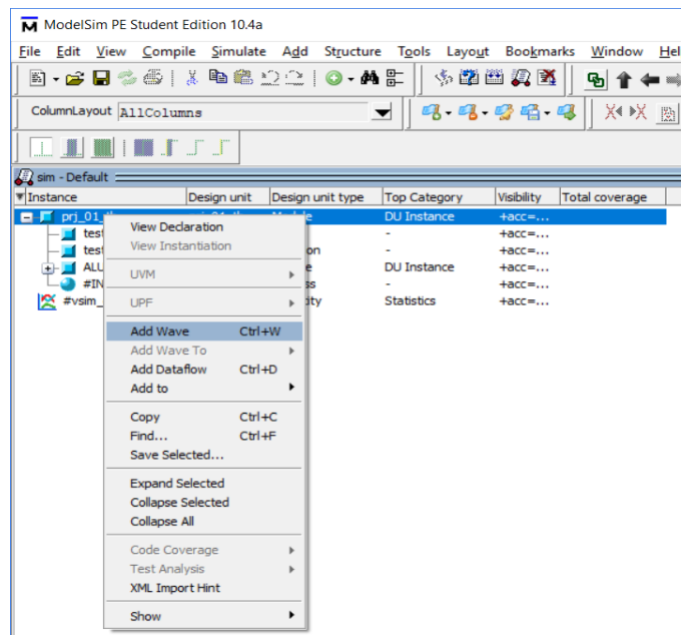
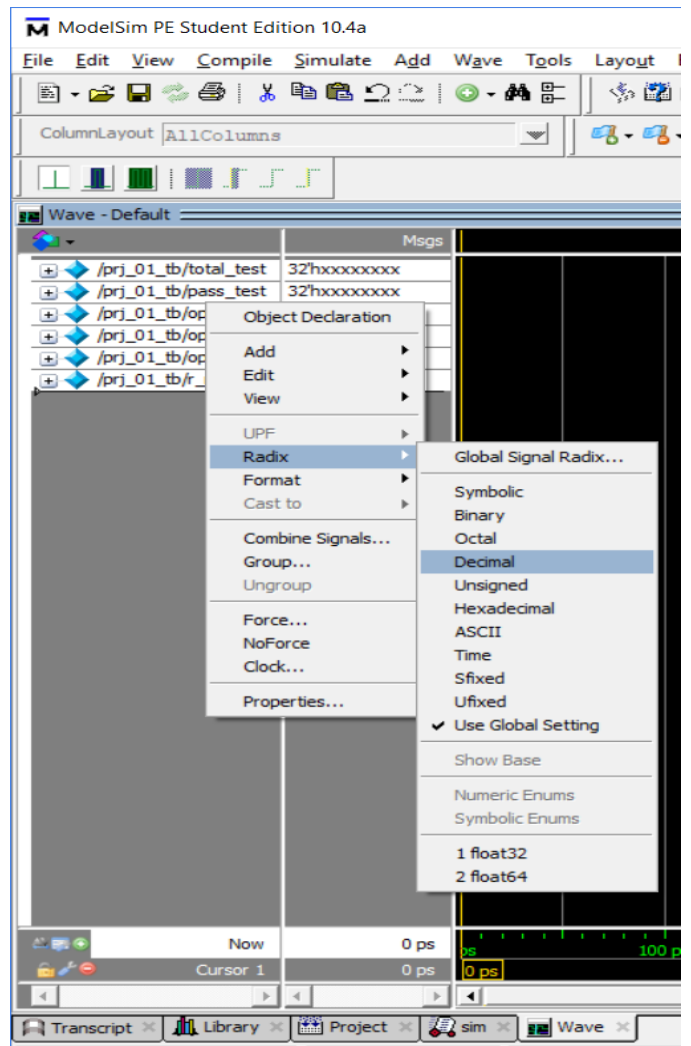

Figure 2.8 Add wave
Figure 2.9 Change format
7) Then right click on the prj_01_tb (Figure 2.8), we can see the add wave. Click on it. It will produce a wave tab. Then select all files, and right click on it. The default number for data is in hexadecimal format. We can change it in the *Radix* to Octal, Binary or Decimal (Figure 2.9).